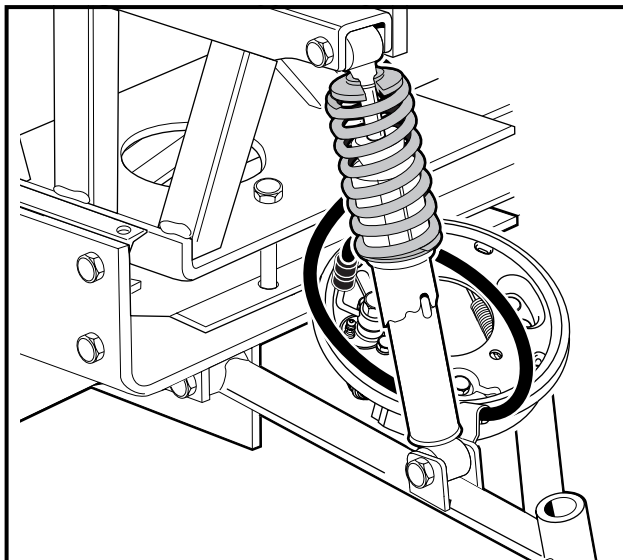

Figure 7-29 Rest Brake Cluster on A-arm
4. Rest the brake cluster on the A-arm as shown (**Figure 7-29, Page 7-16**). Ensure that there is no strain on the brake hose. **See following WARNING.**